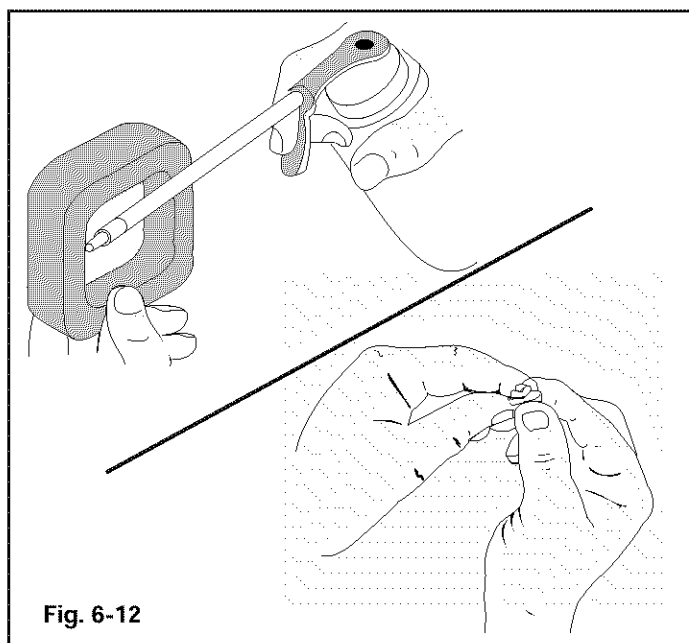

Fig. 6-12
4. Apply enough clean SAE 30 motor oil to lightly coat the filter (Fig. 6-12).
5. Squeeze the filter to spread and remove excess oil (Fig. 6-12).